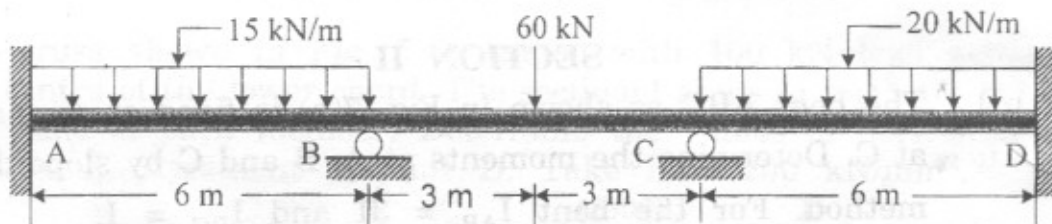

Fig. 8
8. Analyse the continuous beam loaded and supported as shown in Fig. 8 by moment distribution method. Also draw the shear force and bending moment diagram. [16]